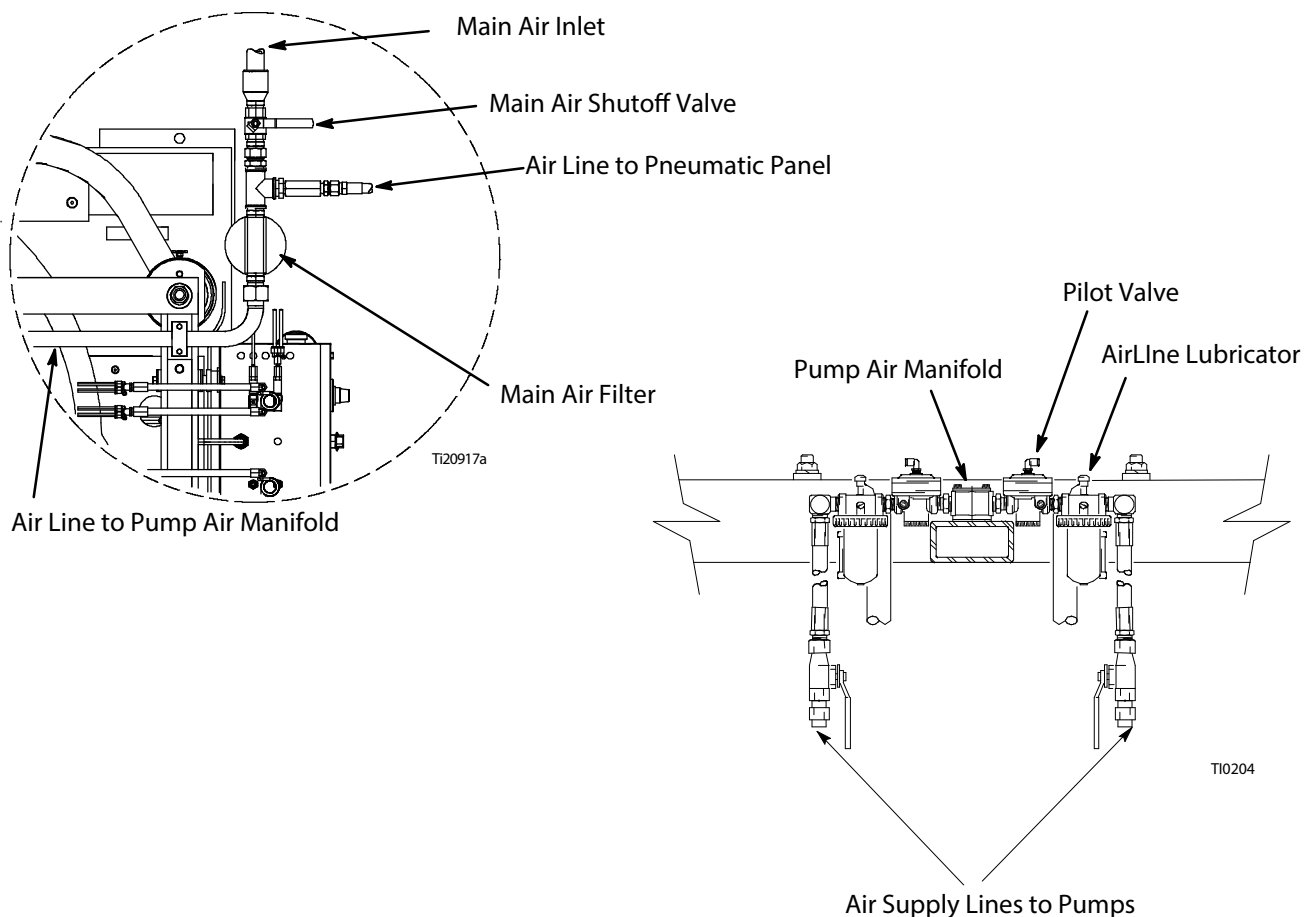

FIG. 10
4. Open the Main Air Shutoff Valve (P), making air pressure available to the unit. See FIG. 10 on page 25.